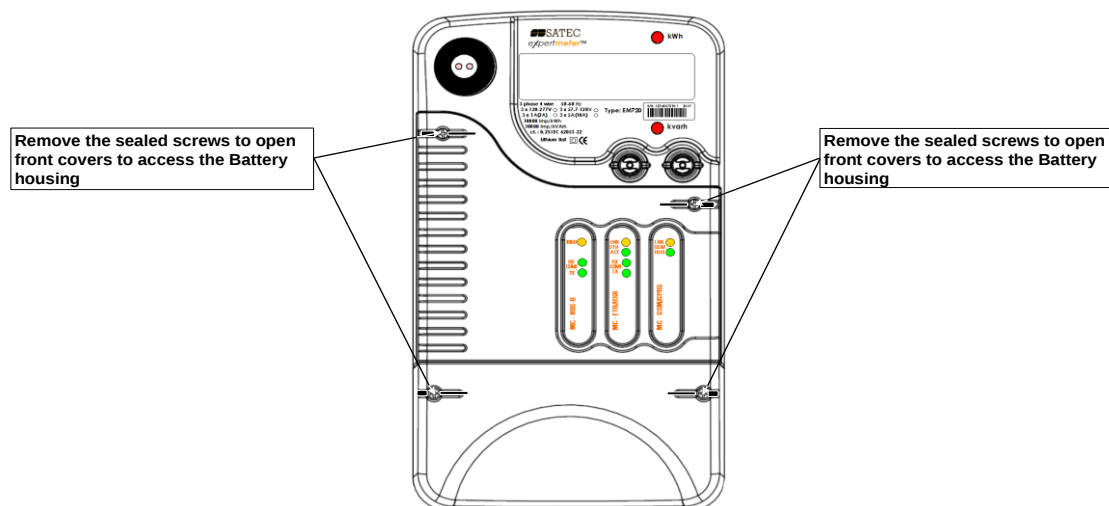

Figure 27: Front covers removing
1. Remove the sealed screw to open the front covers, as in figure 27